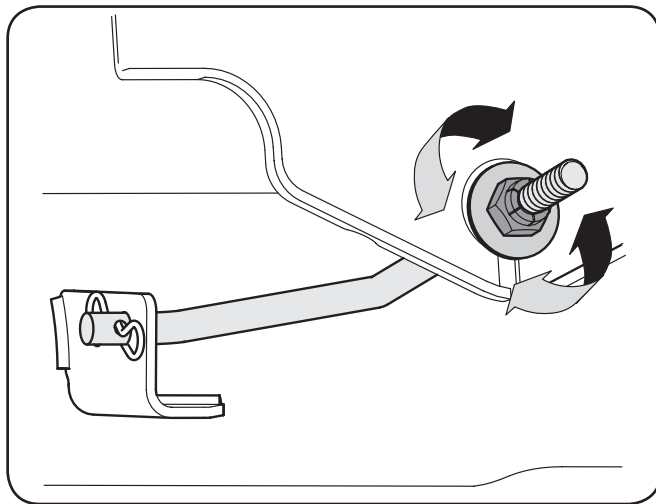

Figure 6-4
3. **On some models:** Locate the jam nut and lock nut on the front side of the stabilizer bracket. Others have just a flange nut as seen in Fig. 6-4.